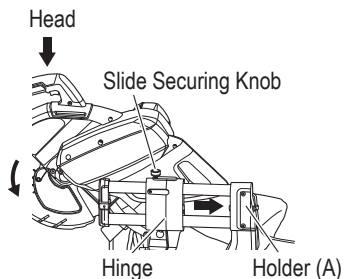

Fig. 49
Also screw in the slide securing knob so that the hinge is positioned to hit the holder (A) and secure the head. (Fig. 49)